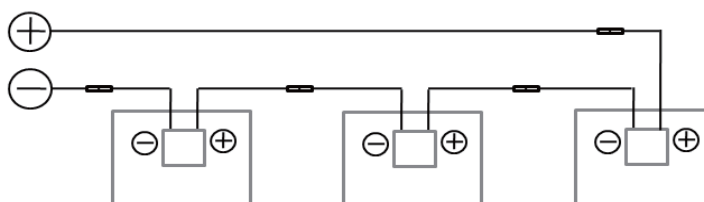
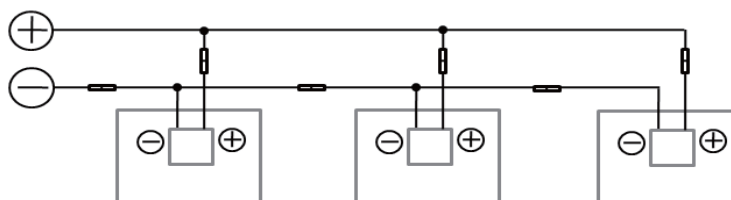
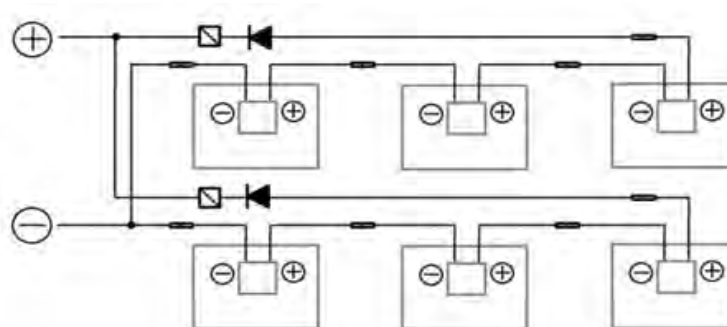

Fig. 10-1 Series Connection
Fig.10-2 Parallel Connection
Fig.10-3 Parallel-series Connection
- The Direct Current (DC) generated by the PV system can be converted to Alternating Current (AC) and connected to the public power grid. Different regions may have different policies, laws and regulations to stipulate the installation and grid-connection requirements of PV systems. Therefore, during the design, installation and grid-connection of PV system, please comply with the local policies, laws and regulations.
- In order to ensure the normal running of the system, when connecting modules or loads, please ensure that the polarity of the cable connection is correct. If the modules are incorrectly connected, the bypass diodes and junction boxes may be damaged. PV modules can be connected in series (Fig. 10-1), in parallel (Fig.10-2) and in series-parallel (Fig. 10-3). The number of serial or parallel connections shall be reasonably designed according to the system configuration. Also note that if the number of parallel connections ≥ 2 , there must be an over-current protection device on each string assembly and bypass are used for over current protection, and the maximum over current protection is 30A. The bypass diodes (type:SBRB4050TS) used for protection are manufactured by Zhejiang Twinsel Electronic Technology Co., Ltd.